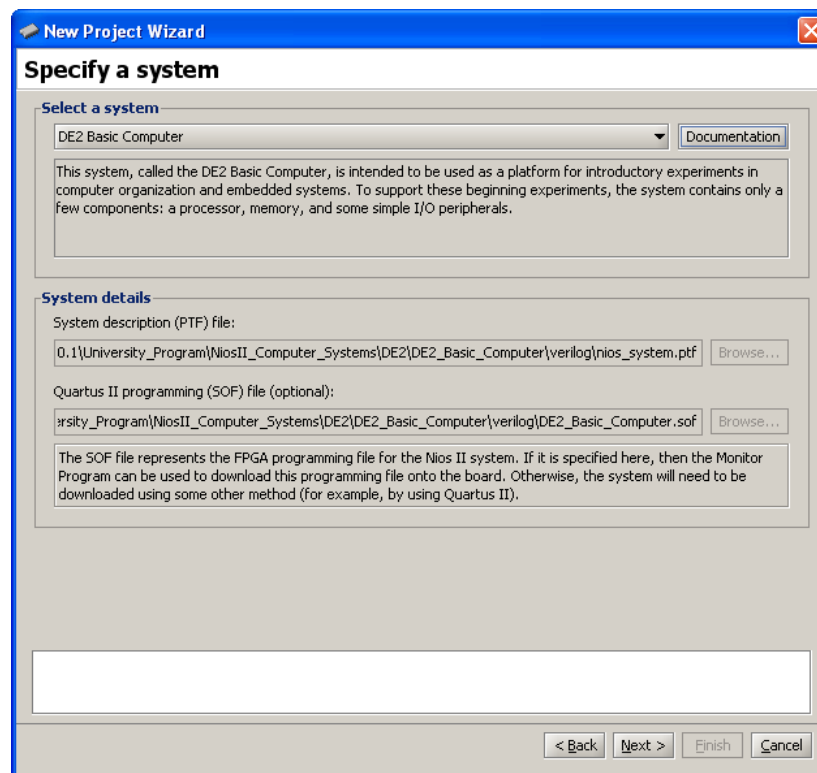

Figure 7. Specifying the Nios II hardware system.
2. Click **Next** to advance to the window shown in Figure 7, which is used to specify a Nios II hardware system. Nios II-based systems are described by a *.ptf* file, which is generated by the Altera SOPC Builder tool when the system is created. More information about creating systems using SOPC Builder can be found in the tutorial called *Introduction to the Altera SOPC Builder*, available in the University Program section of Altera's website. An optional *.sof* file, if specified, represents the FPGA circuit that implements the Nios II-based system; this file can be downloaded into the FPGA chip on the board that is being used.
As depicted in Figure 7, select the pre-built system named *DE2 Basic Computer*. In the top right corner of the screen there is a **Documentation** button. Clicking on this button opens a user guide that provides all information needed for developing Nios II programs for the DE2 Basic Computer, such as the memory map for addressing all of the I/O devices in the system. This file can also be accessed at a later time by using the
For this example, set the program type to **Assembly Program**. When a pre-built Nios II computer system has been selected for the project, as we did in Figure 7, it is possible to click on the selection **Include a**